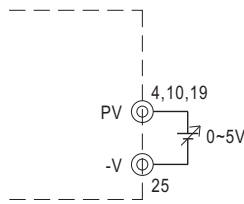

Fig. 3.1 Add on 0~5V external voltage
(1) Connecting an external DC source between PV(4,10,19) and -V(25) as shown in Fig. 3.1.